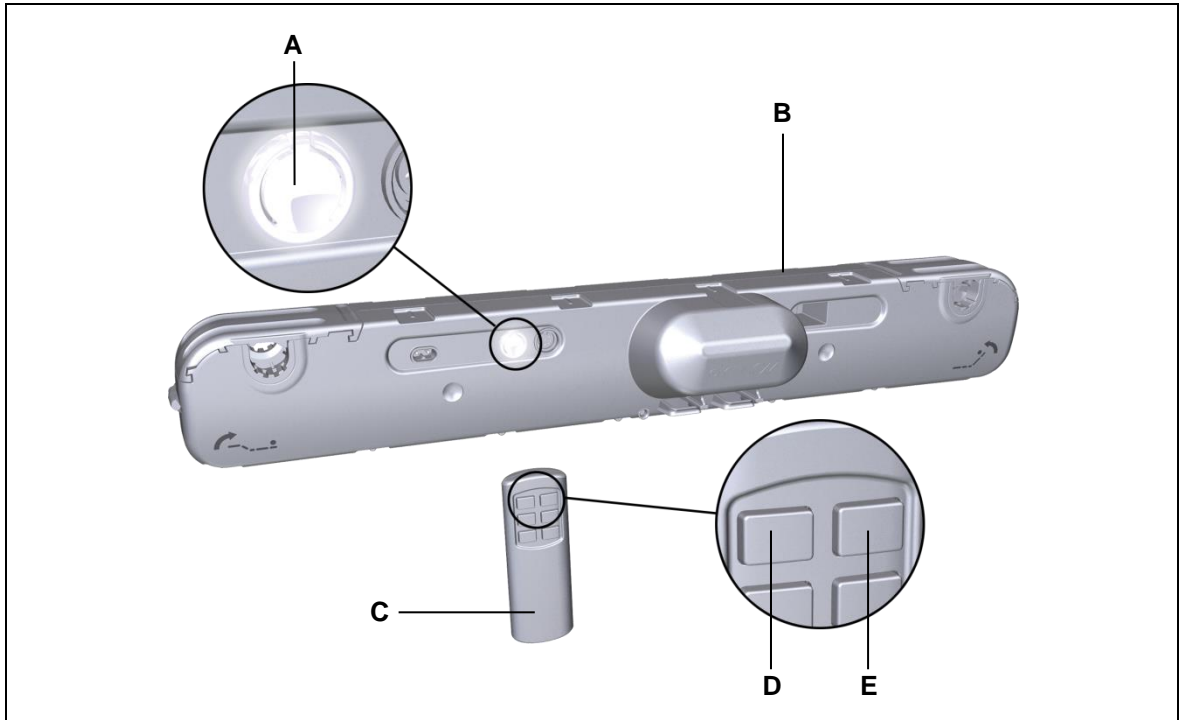

Figure 25 Example: Configuring the RF ECO hand-held remote
- 1 Press the function key on the drive (**A** in Figure 25) twice (a quick double click). The drive will now be in the teach-in (configuration) mode for approximately 10 seconds. The LED on the function key lights up.
- 1 Press the function key on the drive (**A** in Figure 25) four times quickly.